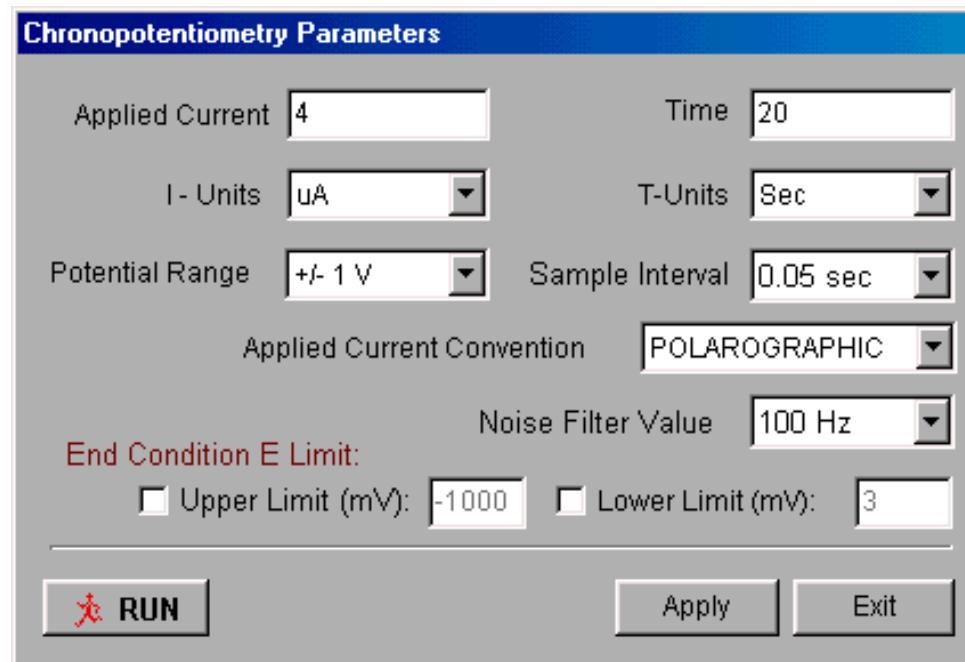
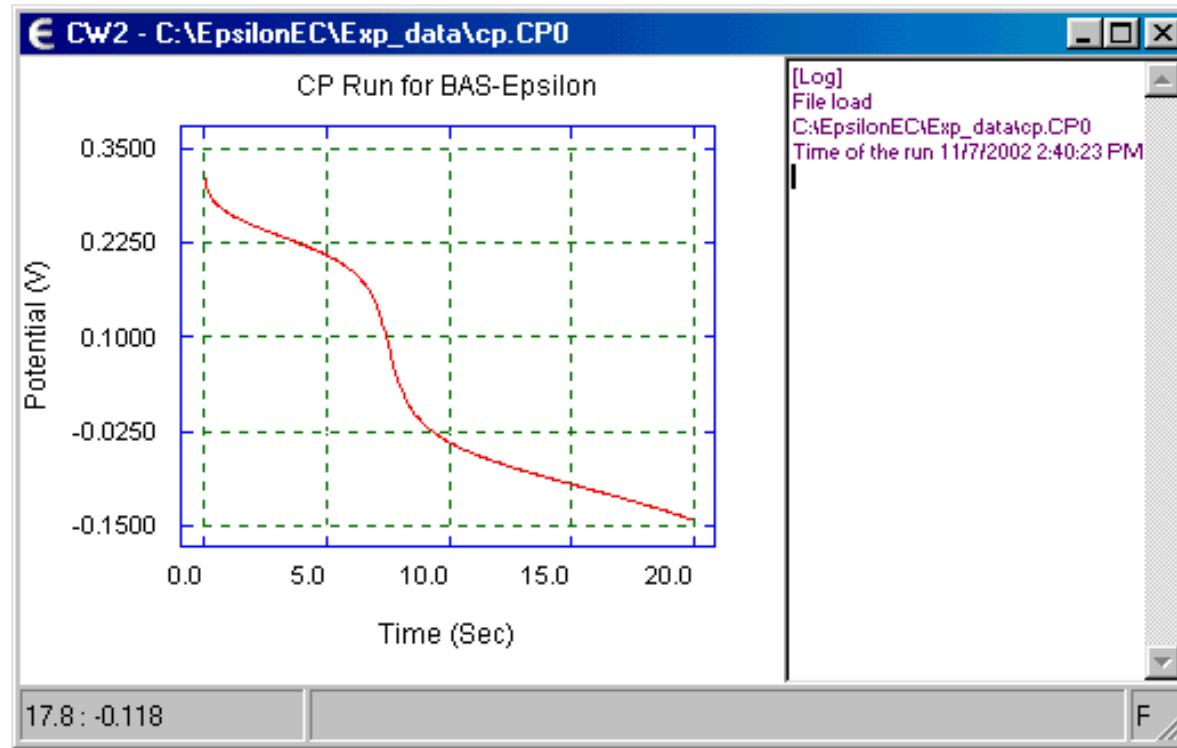

Figure 17. Change Parameters dialog box for Chronopotentiometry.
Figure 18. Chronopotentiometry graph.
17. Click **New**, and select **Chronopotentiometry**. A fourth experiment window will be opened, together with the associated **Change Parameters** dialog box. Enter the parameters shown in **Figure 17**, then run the experiment (note the sign convention for the current - cathodic (reduction) currents are positive for **polarographic**). Typical data for a **Chronopotentiometry** experiment is shown in **Figure 18**.